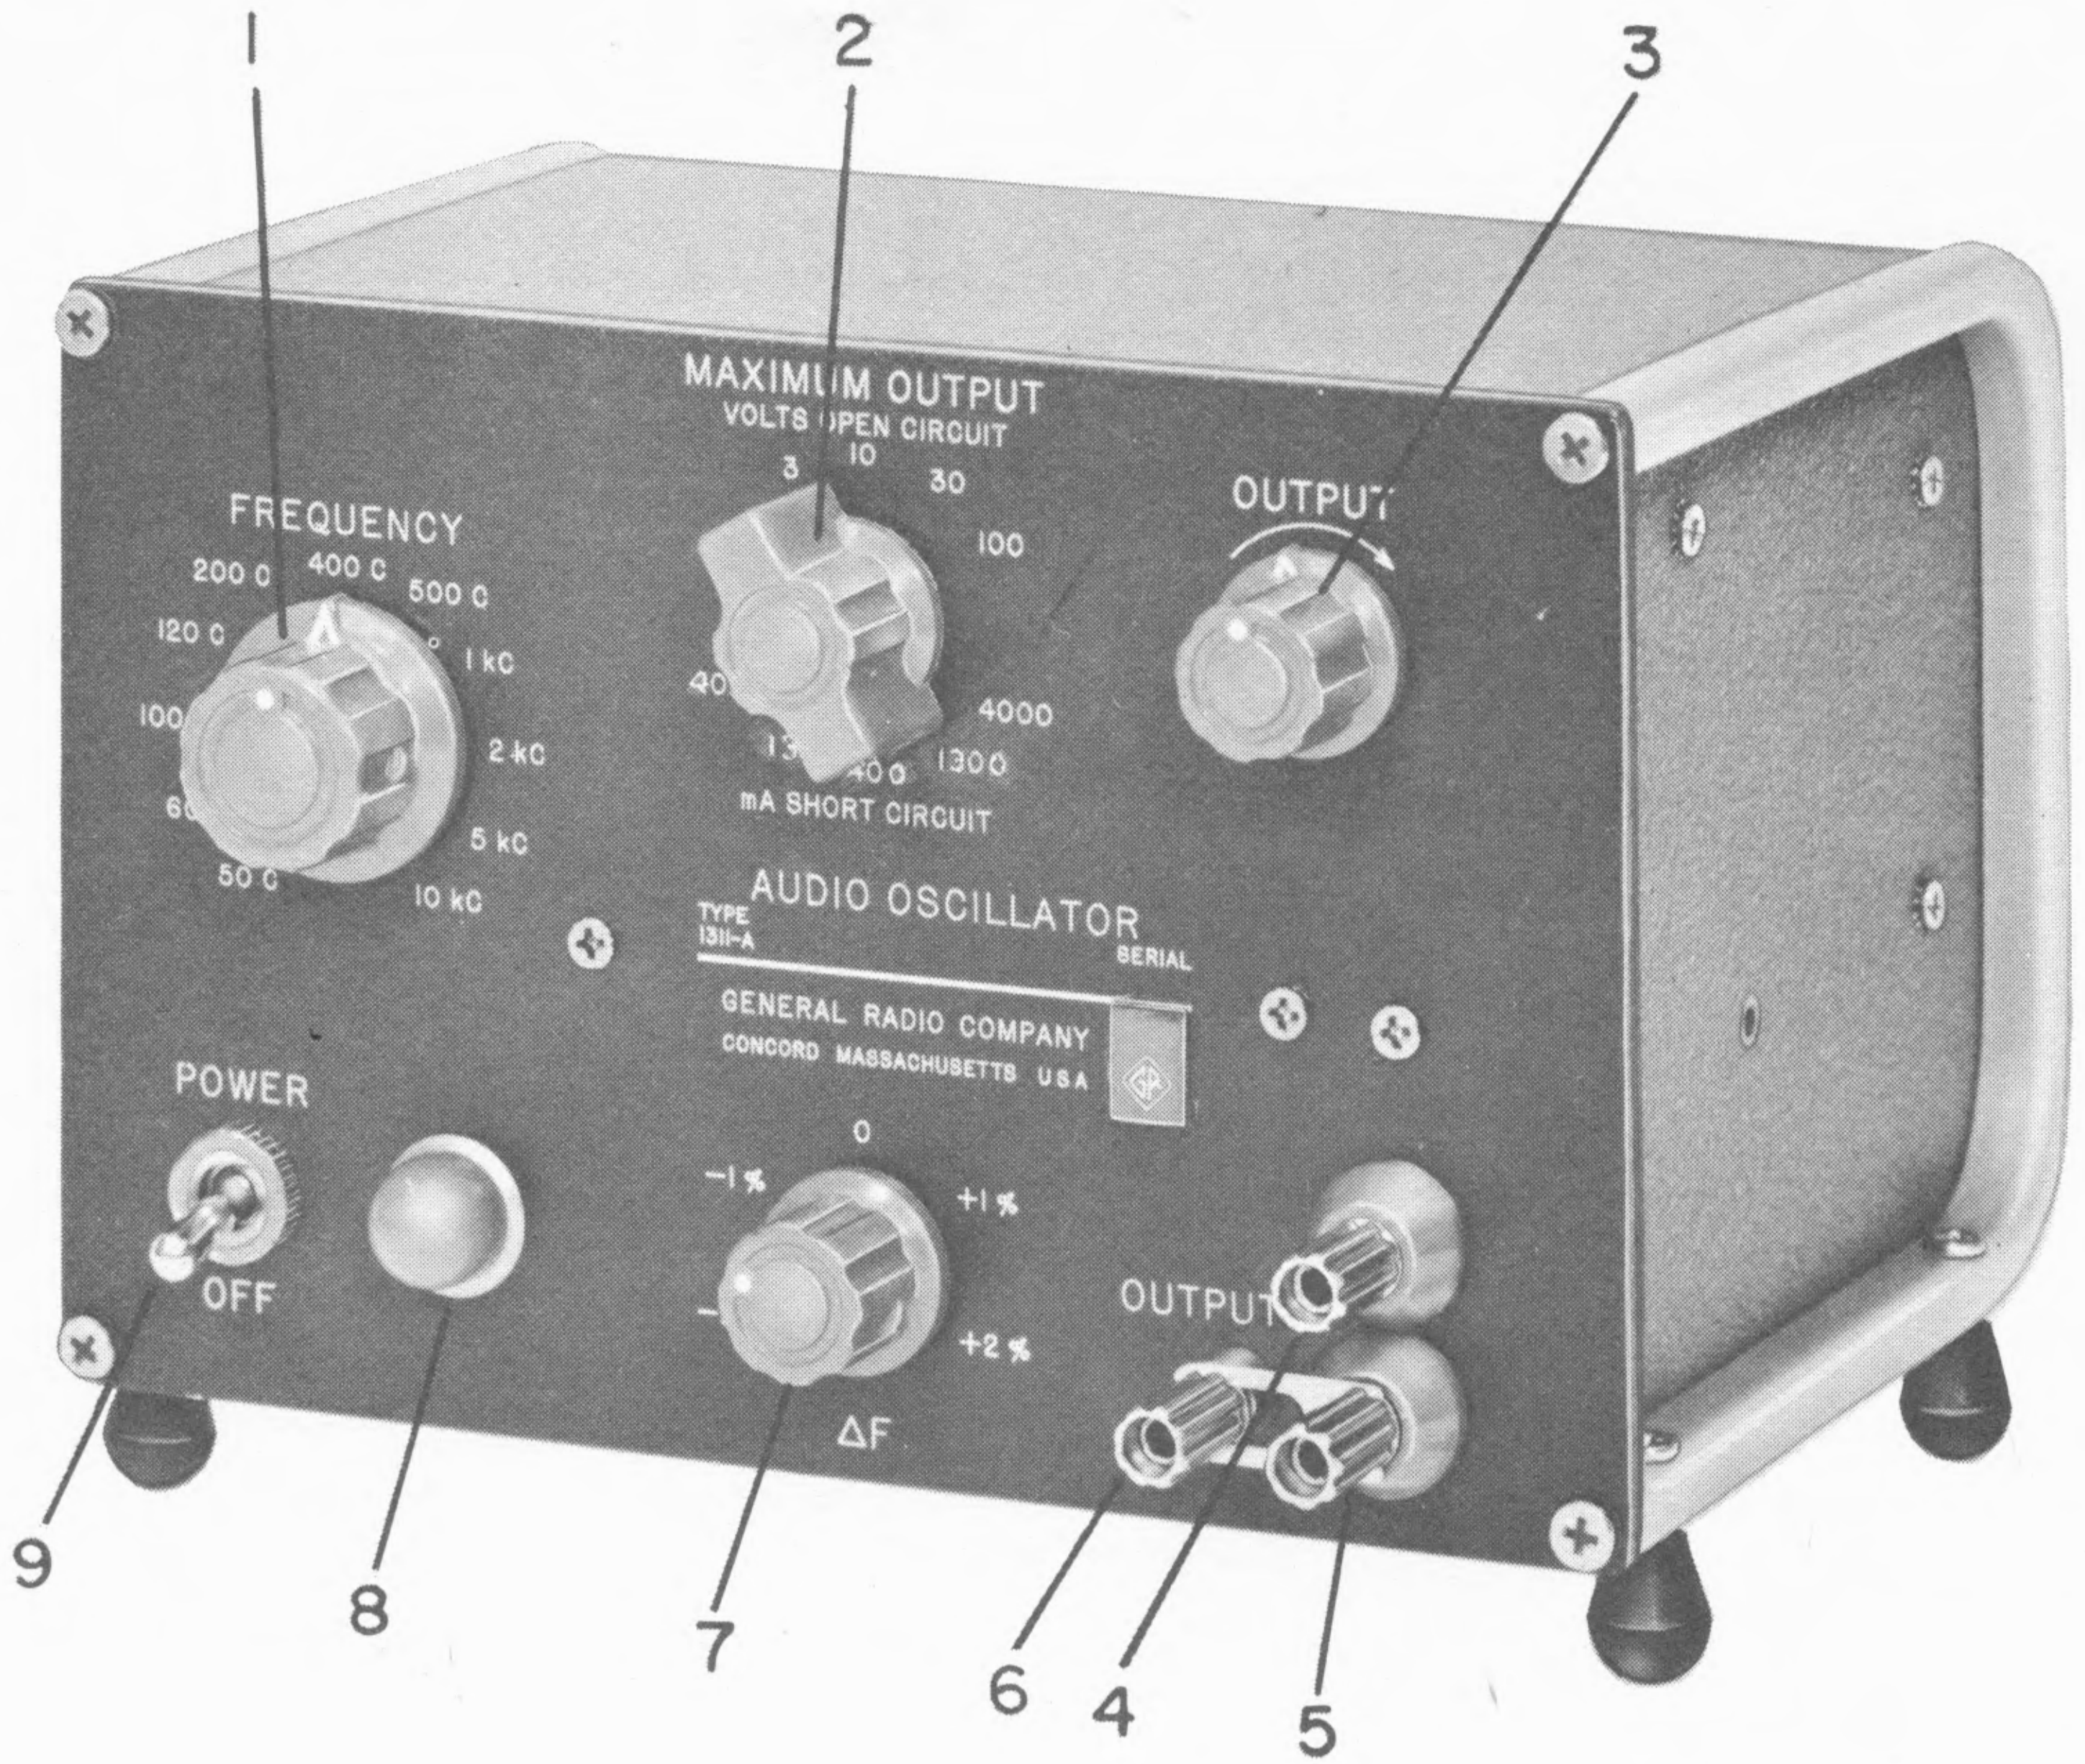

Figure 1-1. Type 1311-A Audio Oscillator.
The Type 1311-A Audio Oscillator (Figure 1-1) is a complete, compact, and self-contained audio-frequency source intended for general laboratory use, and is particularly well suited for use in audio-frequency bridge measurements. It can provide an essentially pure sinusoidal output, stable in amplitude and frequency, over a wide range of load impedances, at 11 frequencies. Provision has been made for a 12th frequency, which the user can readily add by the installation of two commonly available precision resistors.
3.1.2 GROUNDING. The instrument should normally be operated with the chassis grounded through the three-wire power cord. If the cord is not used, make the ground connection at J103(6, Figure 1-1) on the front panel, if required.
3.1.3 OUTPUT CONNECTION. Take the oscillator output from the jack-top binding post pair J101 - J102 (4 and 5, Figure 1-1). J101 is always used above ground, but J102 may be grounded or ungrounded, depending on the requirements of the test setup in use. A captive shorting-link affixed to J103 may be attached to J102, if it is desired to work one side of the output against ground. However, if ground loops pose a problem, disconnect the shorting link from J102 to achieve a completely isolated "floating" output.
3.2.1 TURN-ON. Place the POWER switch (9, Figure 1-1) in up position; the lamp immediately to the right should glow.